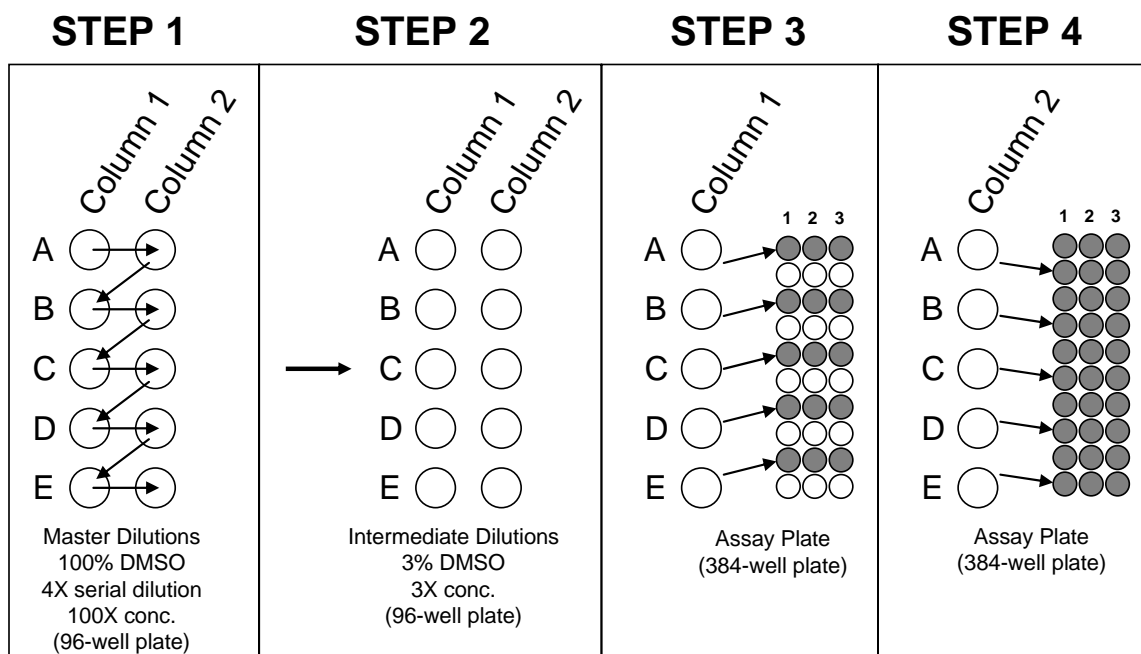

Figure 6. Compound serial dilution.
1. Prepare an intermediate dilution series of each test compound by 4X serial dilution in DMSO such that the top concentration is 1 mM (suggested starting point) (Figure 6, Step 1).
- f. Continue process as depicted in Step 1 of Figure 6.
2. Dilute the “Master Dilution” series 33.3-fold into Kinase Buffer A. Remove 5 µL of each concentration of diluted compound, transfer to another 96-well plate, add 162 µL of Kinase Buffer A and mix (Figure 6, Step 2).
1. Add 5 µL of each concentration of serially diluted compound to triplicate assay wells in a 384-well plate (columns 1-3) as depicted in Steps 2 and 3 of Figure 6.